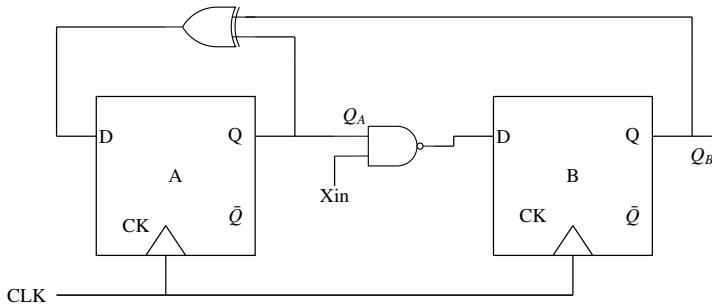

Fig. 6.10
5. A finite state machine (FSM) is implemented using the D flip-flops  $A$  and  $B$ , and logic gates, as shown in Fig. 6.10 below. The four possible states of the FSM are  $Q_A Q_B = 00, 01, 10$  and  $11$ . Assume that  $X_{IN}$  is held at a constant logic level throughout the operation of the FSM. When the FSM is initialized to the state  $Q_A Q_B = 00$  and clocked, after a few clock cycles, it starts cycling through (GATE EC 2017)